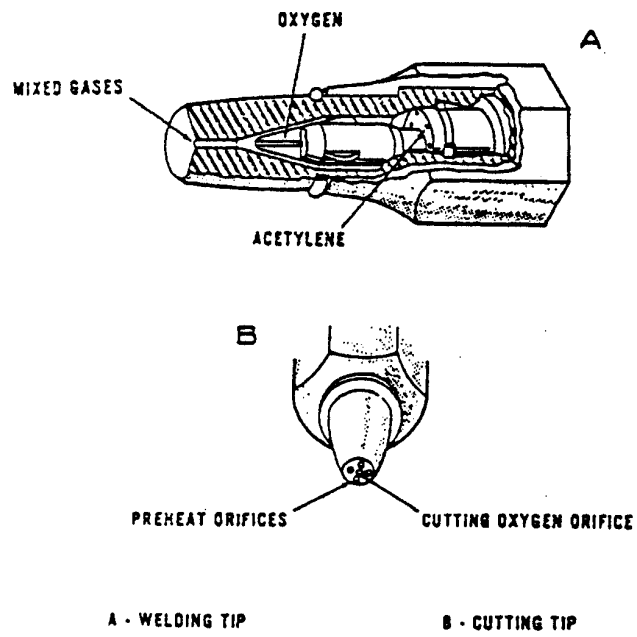

Figure 3-9 Cutting tip
- a. Cutting tips are made of copper or of tellurium-copper alloys. Whether you use a cutting torch or a cutting attachment to the welding handle, the cutting tip will be of the same general design as that shown in **Figure 3-9 and 3-10**. Notice that the cutting tip has several small orifices which surround a larger center orifice. The small orifices are for the oxyacetylene flames which are used to preheat the metal to its ignition temperature. The large center orifice is used to direct the jet or stream of high pressure oxygen that does the cutting. There are usually four or six preheat orifices in a typical cutting tip.